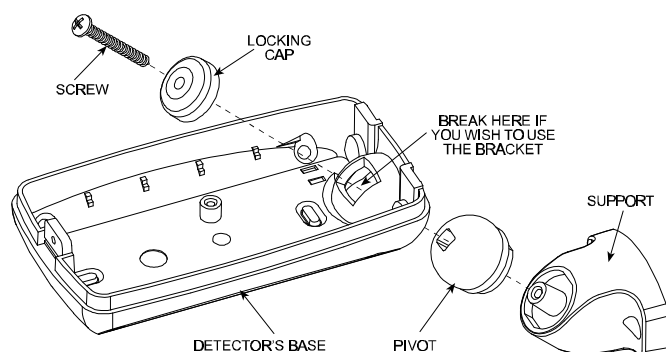

Figure 5. Attaching the Bracket
- Punch out the large knockout at the top part of the base (see Figure 5)
4th. Assemble the bracket as shown in Figure 5.